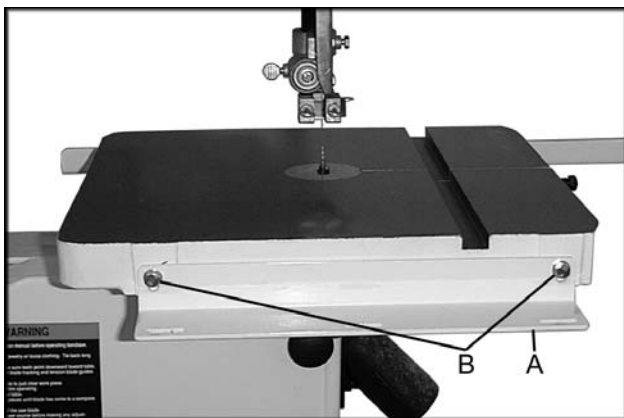

Fig. 2
3. Mount the front rail (A, Fig. 2) to the bandsaw table using two M6x20 hex cap screws, two lock washers and two flat washers (B, Fig. 2). Do not tighten.